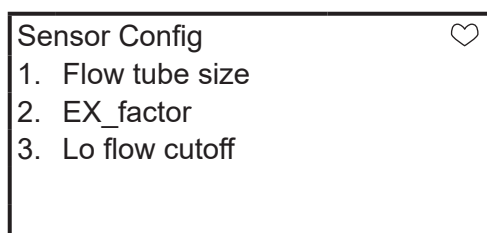

Figure 18 Transmitting the setting
- Once returning to the Sensor Config menu, select F2 (SEND) to transmit the change to the converter. The HART Communicator mark will appear in the upper right hand corner while HART is communicating with the device. (Figure 18) The mark will disappear once communication is properly completed.
- After returning to the Sensor Config menu, select F2 to transmit the change to the converter. The HART Communicator mark will appear in the upper right hand corner while HART is communicating with the device. (Figure 18) The mark will disappear once communication is properly completed.
3. After returning to the Puls outp config menu, select F2 (SEND) to transmit the change to the converter. The HART Communicator mark will appear in the upper right hand corner while HART is communicating with the device. (Figure 18) The mark will disappear once communication has been properly completed.